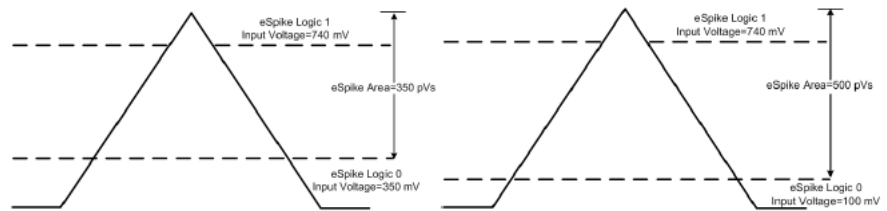

Figure 47 Examples of eSPIKE
- Some examples are (refer to Figure 47):